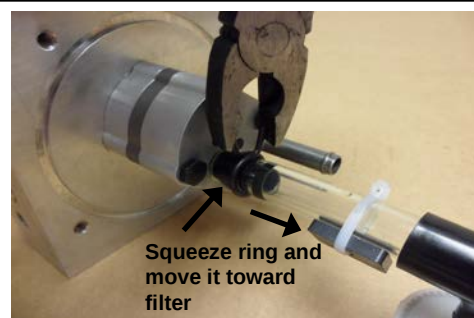

Figure 3 Pickup tube with spring hose clamp
- 5) Use pliers to squeeze the spring hose clamp and move it toward the middle of the hose. (See Figure 3 & 4) Then pull the hose off the black fitting on the end of the pump body.